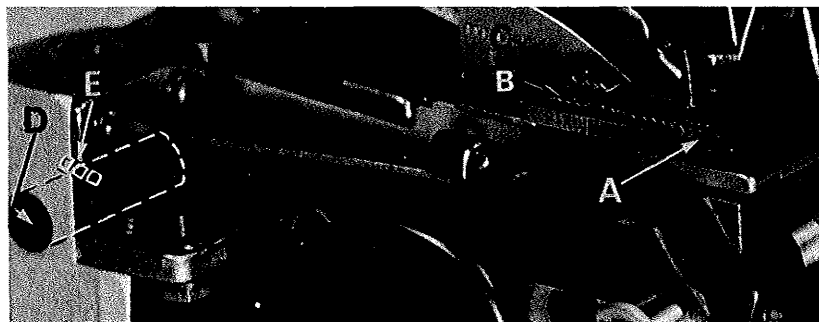

Fig. 12
Now assemble main (back) feed dog (B, Fig. 12) and chaining feed dog (C). Set all feed dogs (A, B, C, Fig. 12) so the top surfaces of the teeth all lie in the same plane. This can be checked by sighting across the teeth with a straight edge. Now assemble throat plate. Feed dogs should now be leveled with throat plate surface by rotating feed tilting adjusting pin (D). This pin raises or lowers the back end of feed bar.